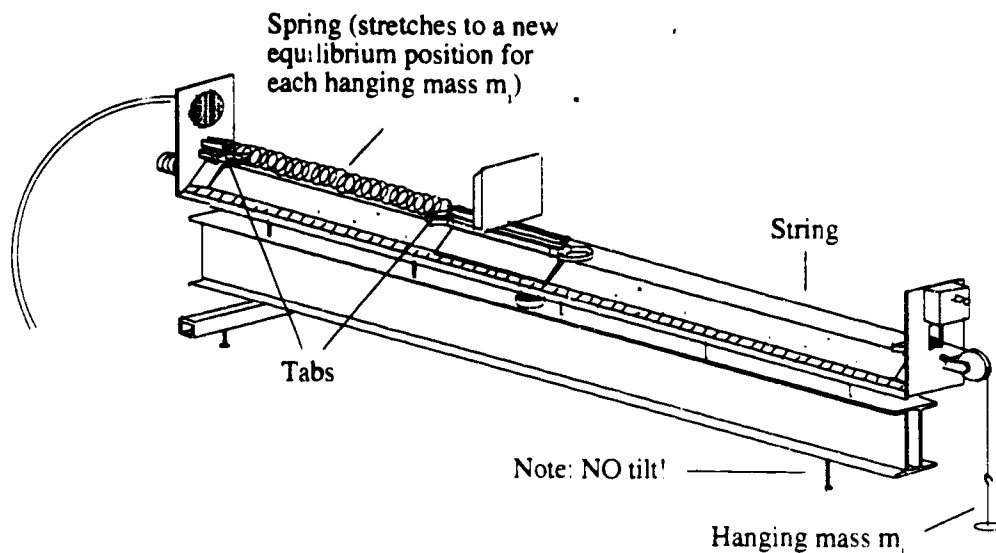

Figure 2: Set-up for Part IIIa
1. As shown in Figure 2, hook one end of the spring to the tab on the aluminum extrusion at the non-pulley end of the air track and the other end of the spring to one of the tabs on the glider. Put the hook on the thread through the tab on the other end of the glider, pass the thread through the hole in the transducer mounting plate, and then over the pulley at the end of the air track. Finally, place a 5.0 gram mass hook on the end of the thread. Add another 20.0 grams for a total  $m_1$  of 25.0 g.